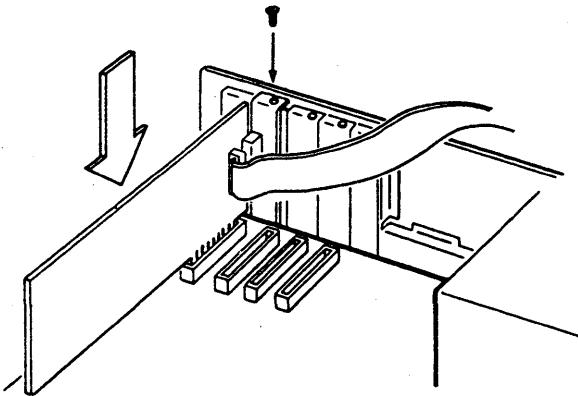

Figure 6: Installing the Tape Controller Card
6. Install the controller card, with cable attached, into your expansion slot as shown in Figure 6.